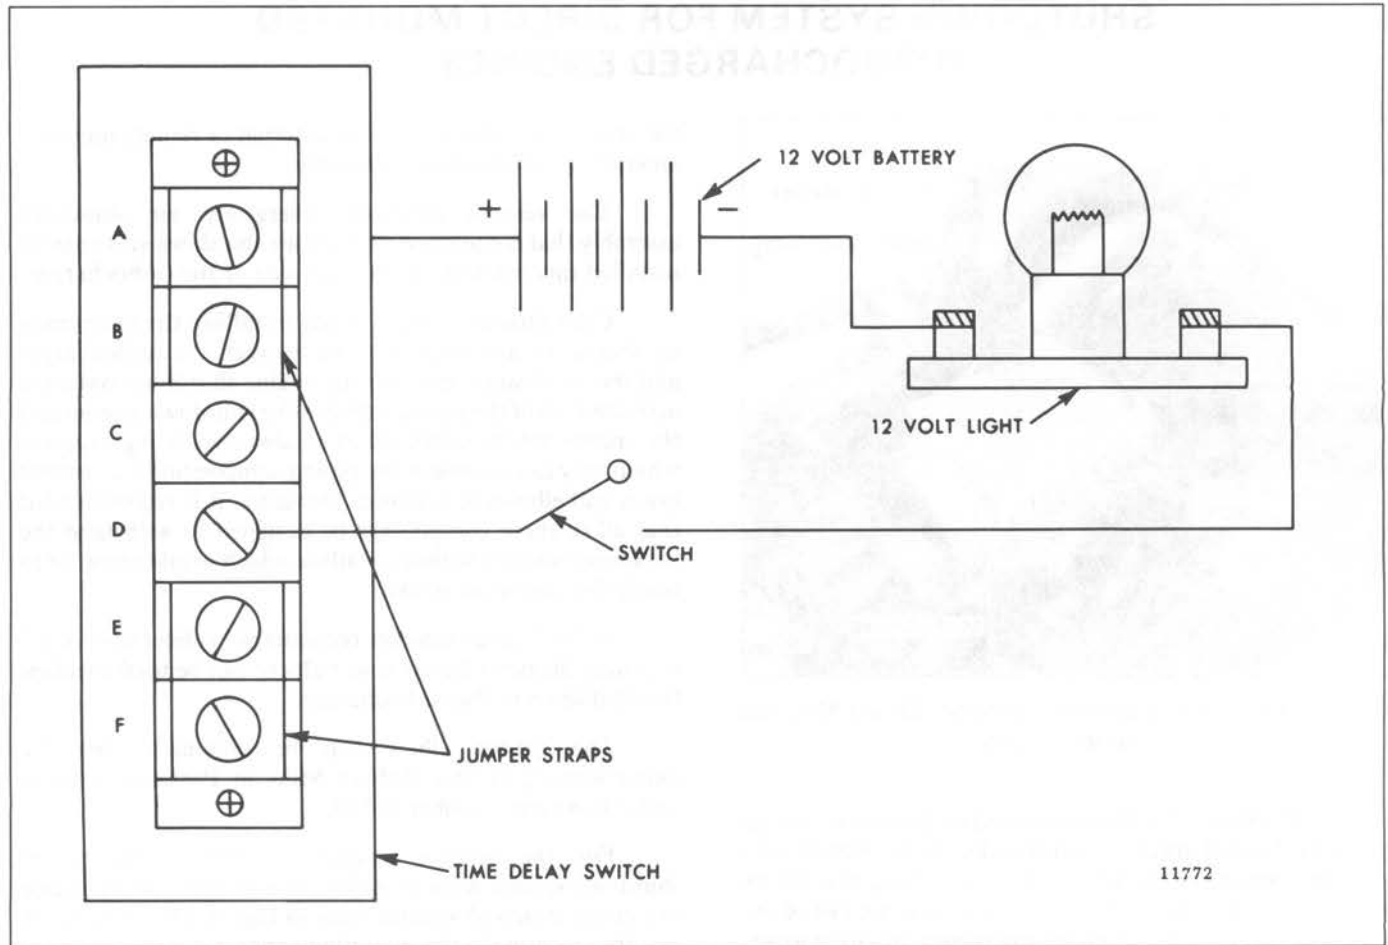

Fig. 5 - Solid State Time Delay Switch Testing Diagram
2. Refer to Fig. 5 and install the jumper straps on terminals A to B and E to F.